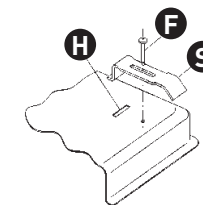

Fig. 10
- Fix the hob with the appropriate brackets **S** and insert the protruding flange bracket into the slot **H** underneath; screw in the screw **F** until the bracket **S** is flush with the surface (fig. 10).